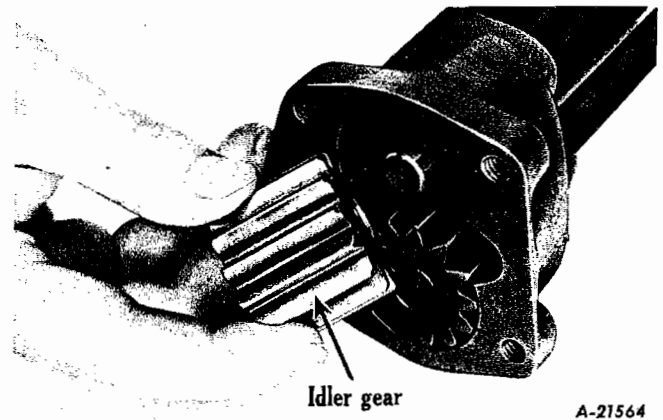

Fig. 46
3. Lift out oil pump idler gear from idler gear shaft (Fig. 46).